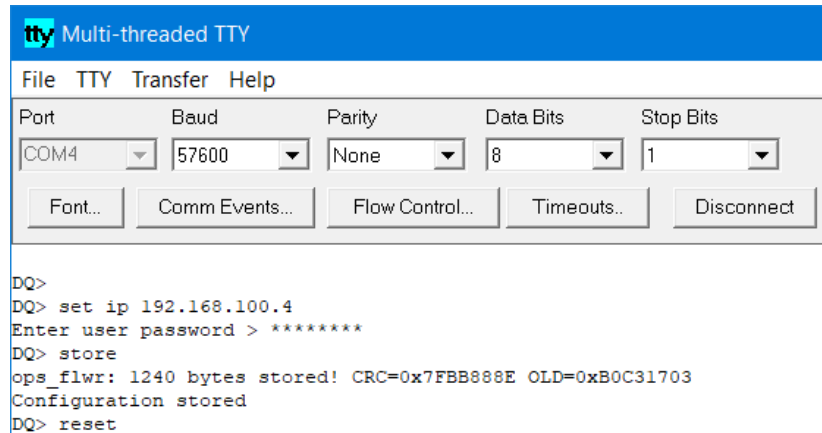

Figure 4-5 Updating Primary IP Address in MTTTY
STEP 5: To change the NIC1 address, type `set ip <new IP address>` in the MTTTY window at the DQ> prompt (**Figure 4-5**). When prompted for a password, type `powerdna`.